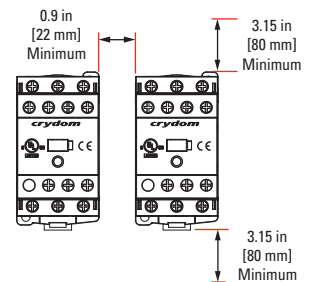

fig. 3 Multiple units mounting for maximum ratings
To achieve maximum ratings, there must be a minimum spacing of 0.8 in (22 mm) between the devices in free air and a minimum free spacing of 3.15 in (80 mm) at the top and at the bottom. (See **fig. 3**)
- (A) See compatible accessories in corresponding datasheet.
- (B) For optimal thermal performance, contactor vents should be aligned vertically to maximize natural convection airflow.
- (C) To achieve maximum ratings, there must be a minimum spacing of 0.8 in (22 mm) between the devices in free air and a minimum free spacing of 3.15 in (80 mm) at the top and at the bottom. (see **fig. 3**)
- (D) Normally Open (13 - 14) for DRC3xxxx411, DRC3xxxx420, DRC3xxxx433 and DRC3xxxx440 models.
- (E) Normally Open (23-24) for DRC3xxxx420 and DRC3xxxx440 models, Normally Closed (21-22) for DRC3xxxx411 and DRC3xxxx433 models.
- (F) Not available for DRC3xxxx400 models.